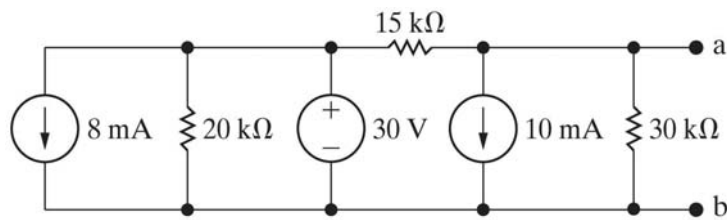

Figure 7
4. Find the Norton equivalent with respect to the terminals a, b in the circuit in Fig. 7.